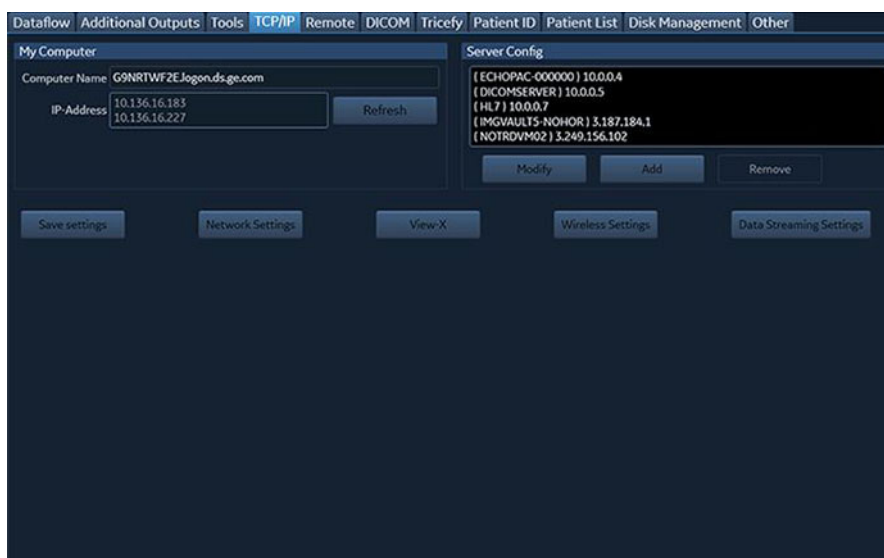

Figure 14-8. Video Streaming under TCP/IP configuration.
3. Select **Video Streaming** (Figure 14-8).